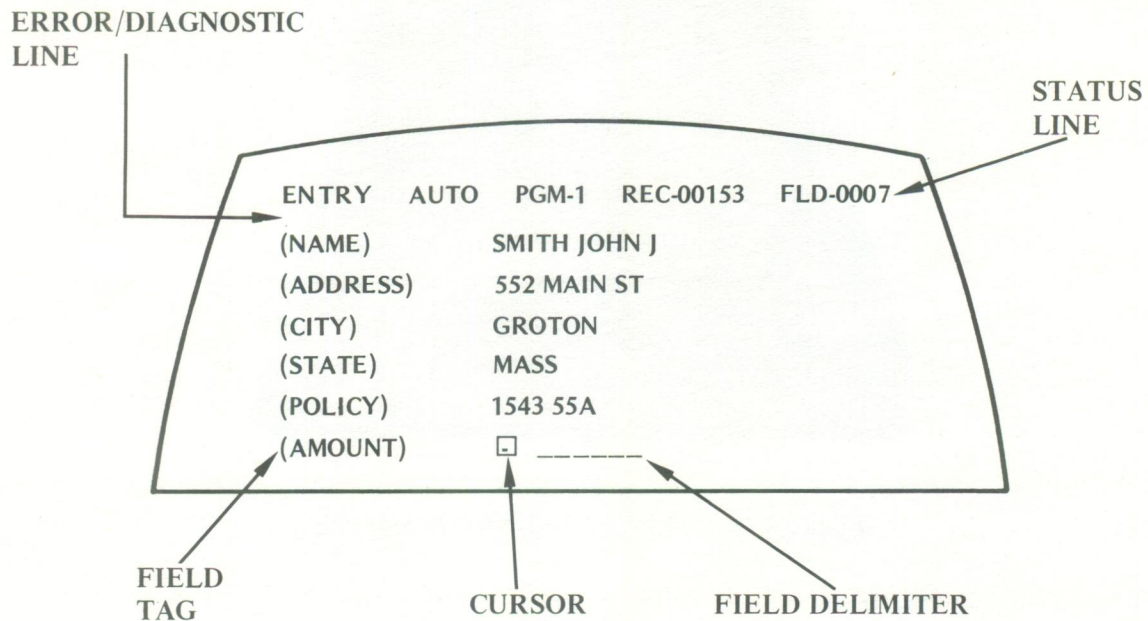

Figure 1-4. Typical Display Presentation
DATA/TERMINAL Keystations provide the operator with a means of visual and audible communication with the system. The display is capable of presenting a total of 480 (360 for Systems 280 and 380) characters on 12 (9 with Systems 280 and 380), 40-character lines with display presentation sectioned as follows (Figure 1-4):
To aid the user in efficient data entry, a cursor is constantly visible on the data display to indicate the placement of the next data character to be keyed (Figure 1-4). The cursor is a rectangle of light the size of one character that blinks and is transparent; i.e., a character in the same data position can be seen behind it.
Data fields are presented to the operator in the form of field tags and field delimiters. Entry of tags and delimiters is accomplished by the supervisor as part of input format creation. Tags and delimiters may be formatted in any desirable fashion; the only criteria are ease of operator understanding and data entry efficiency. Field tags and delimiters are discussed in the following paragraphs and illustrated by Figure 1-4.
- **Field Tags** – Tags are considered a naming convention for data fields displayed on the DATA/TERMINAL screen. Tags are stored in memory with an associated delimiter as a part of the input format and are automatically displayed by the system when records are entered, verified or displayed (Figure 1-4).
- **Field delimiters** – The exact number of data positions corresponding to each field tag is indicated by a row of underscore characters. These characters follow the field tag and form the field delimiter. The delimiter indicates the length of the field as well as the number of remaining characters to be entered by the operator (Figure 1-4).